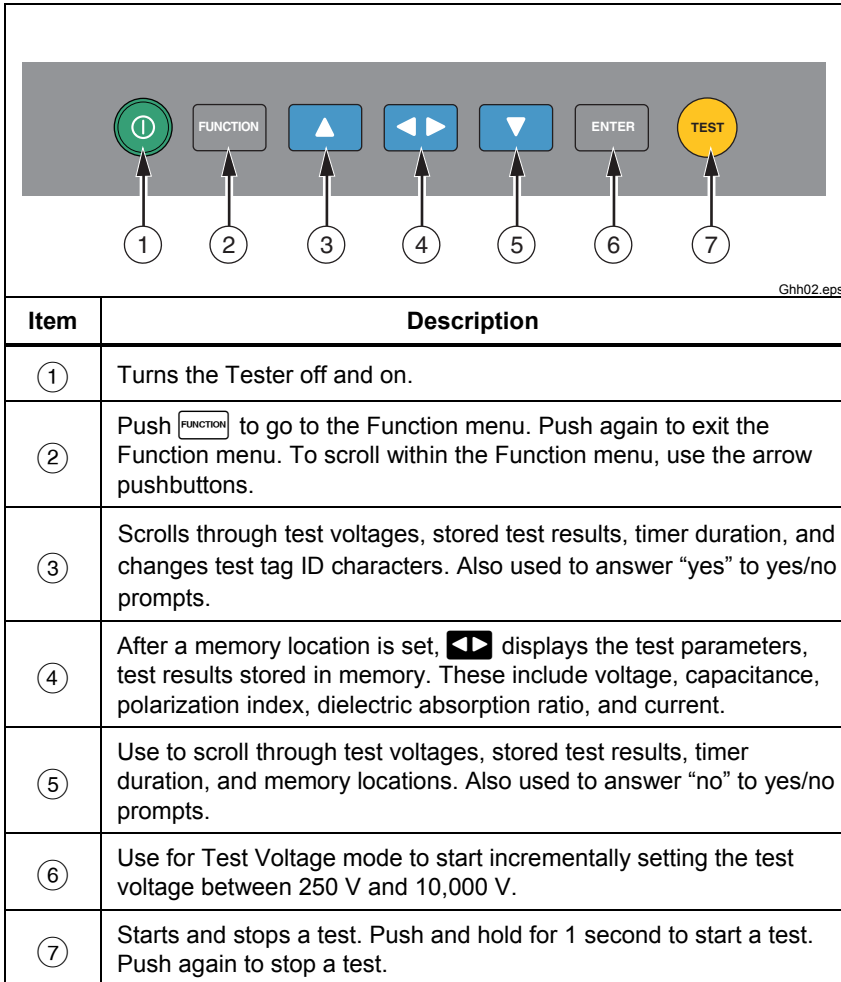

Figure 3. Pushbuttons
- **Before and after testing, confirm that the Tester does not indicate the presence of a hazardous voltage, see Figure 3. If the Tester beeps continuously and a hazardous voltage is shown on the display, remove power from the circuit under test or allow the installation capacitance to fully discharge.**